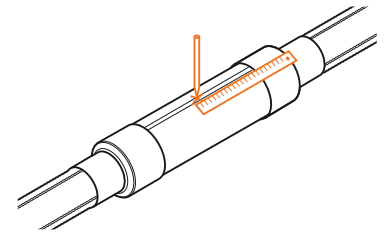

Fig. B11.1.10
10. Mark a dot in the top middle of the Heat Shrink Sleeve (Fig. B11.1.10).